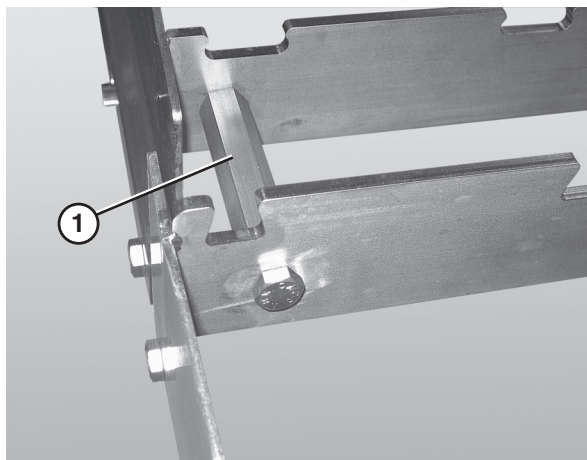

Figure 40
3. Connect the frame sections by bolting the hex post connectors (Figure 40, item 1) the sections of frame.